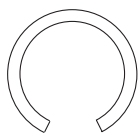

FIG. 1
- The block is inserted in the test tube as indicated in Fig.1. Position is maintained during 336 hours in the same conditions.
- On place le bloc dans l'éprouvette comme l'indique la figure 1. On maintient la position durant 336 heures en conservant le conditionnement.